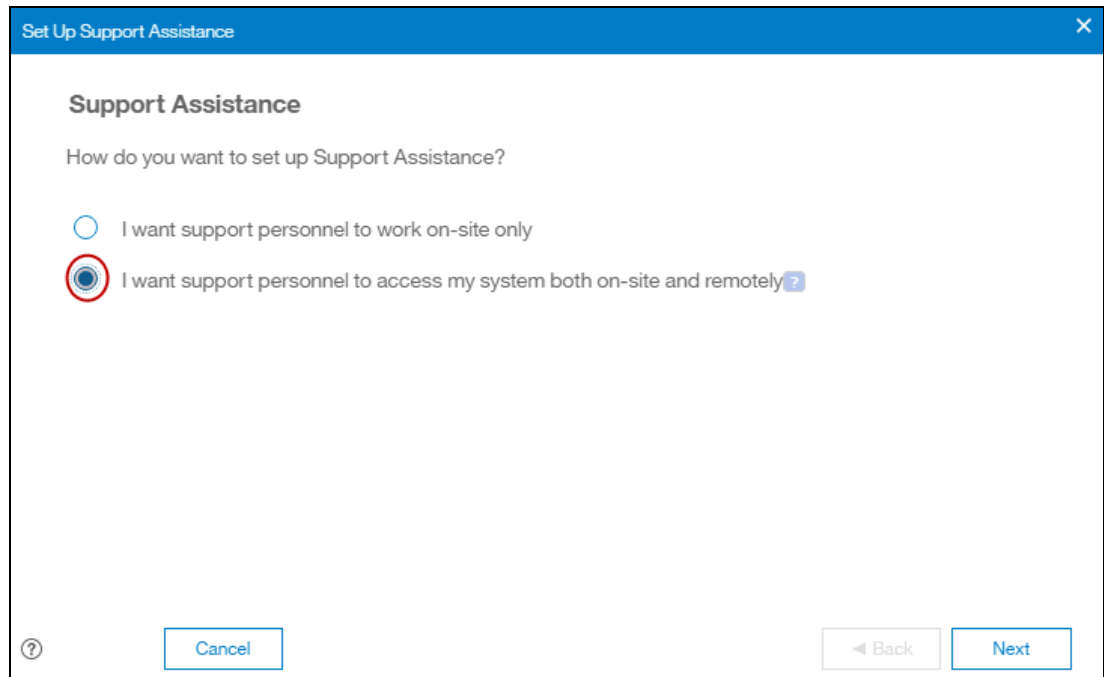

Figure 7-68 Remote Support wizard enable or disable
5. Figure 7-68 on page 288 shows the first wizard window. Choose not to enable remote assistance by selecting **I want support personnel to work on-site only** or enable remote assistance by choosing **I want support personnel to access my system both on-site and remotely**. Click **Next**.